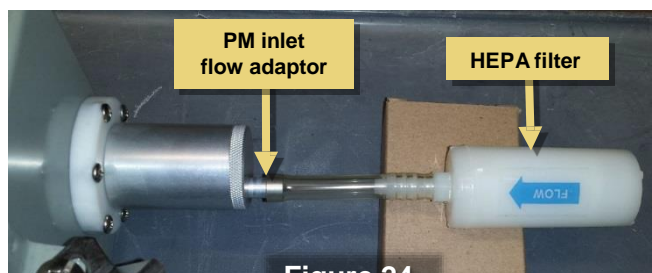

Figure 24
2. Connect the supplied HEPA filter with tubing attached to the CSAM-PM inlet (Figure 24).
4. Record the final zero voltage and enter zero (0) for the concentration value in the appropriate spreadsheet cells and on the CSAM Monitoring Record or other project documentation.